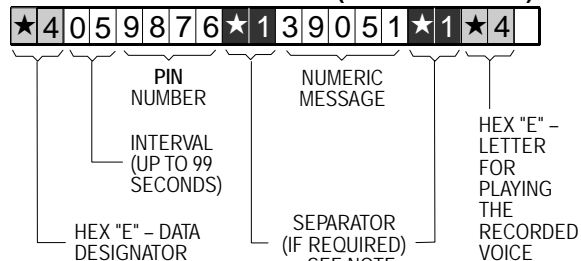

Figure 7. Programming the Pager's 2nd Location
- F. Suppose the target pager requires a 5 second interval between the end of dialing and the beginning of the message. Also suppose that the PIN number is 9876 and the message is 39051. Key the data as shown in Fig. 7.